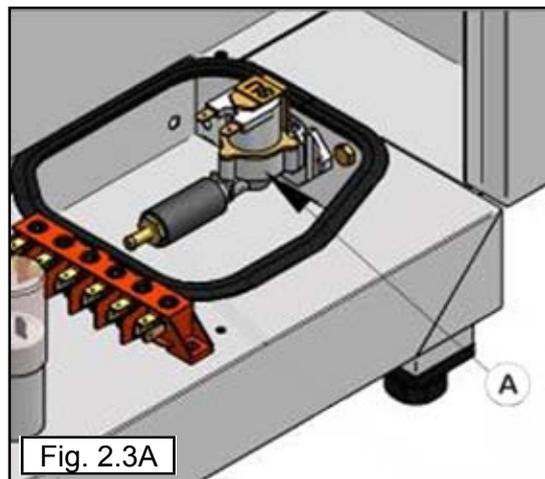

Fig. 2.3A
In Convection + Humidification models, the solenoid valve (B) supplies the steam generation in Combination cycle (Fig. 2.3A).